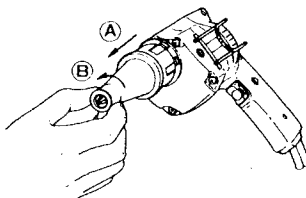

Fig. 6
(Figs. 6 and 7)
2. Dismounting the bit: (Figs. 6 and 8)